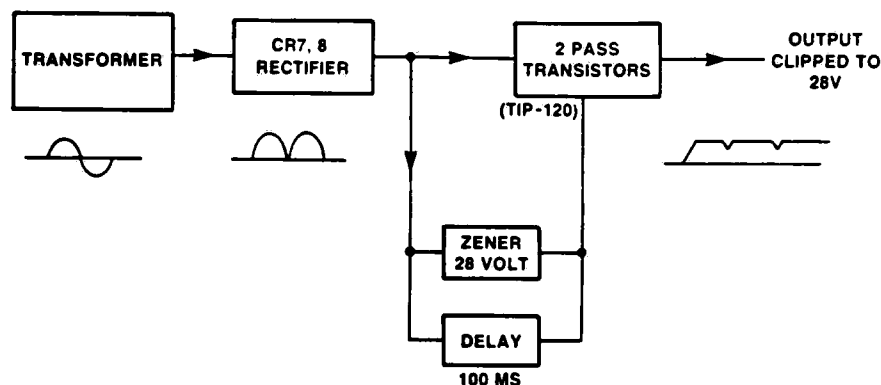

Figure 3-21. PRINTCON 28-VOLT POWER SUPPLY.
6. The +28 VDC power supply operates as follows: Voltage from the full wave rectifier (CR7 and CR8) is filtered by C5. This filtered circuit provides voltage to series pass transistors Q6 and A7 through fuse A4. The series pass transistors operate in parallel and are equalized by R11 and R12. The base reference voltage is provided by R13 and zener Z4, near 28 volts. R13 and C10 provide a slight delay on power turn on (Figure 3-21).